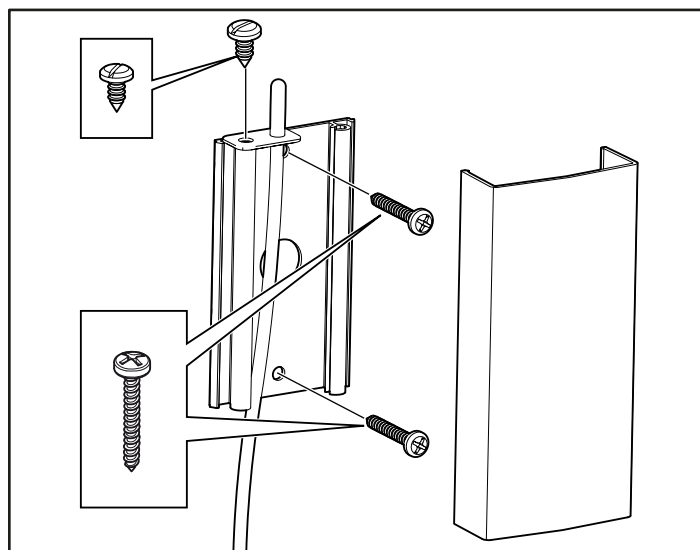
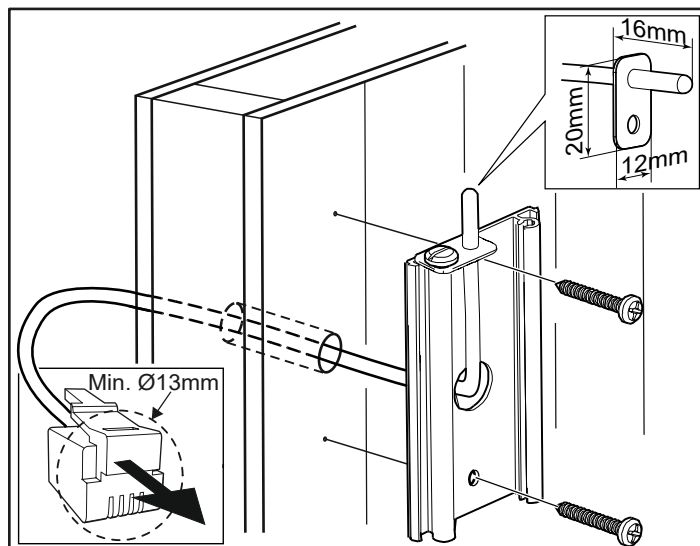

Figure 11: Installing the sensor
Figure 12: Wiring through the wall.
7. Install the sensor on the wall see Fig 11. The thermistor wire may also be passed through the wall. Seal any holes in the wall behind the sensor, see Figure 12. The thermistor wire may be extended outside the sauna using low voltage wire (2-lead).